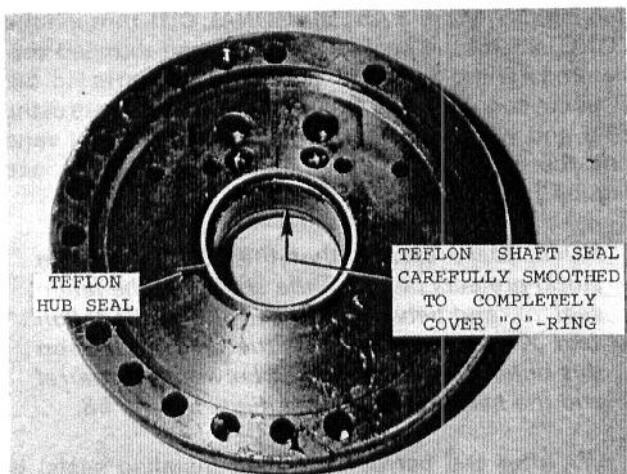

Fig. 59 — Preassembled Top Plate Prior to Assembly onto Barrel
20. Install the upper shaft seal "O"-ring into its groove in the top cover ... then install the teflon seal over this "O"-ring. CAREFULLY smooth the teflon seal with a screwdriver handle, then lightly grease this seal ... see Fig. 59. (The teflon seal is designed to fit around the shaft and to be "loaded" by the "O"-ring. The "O"-ring should not contact the shaft.)